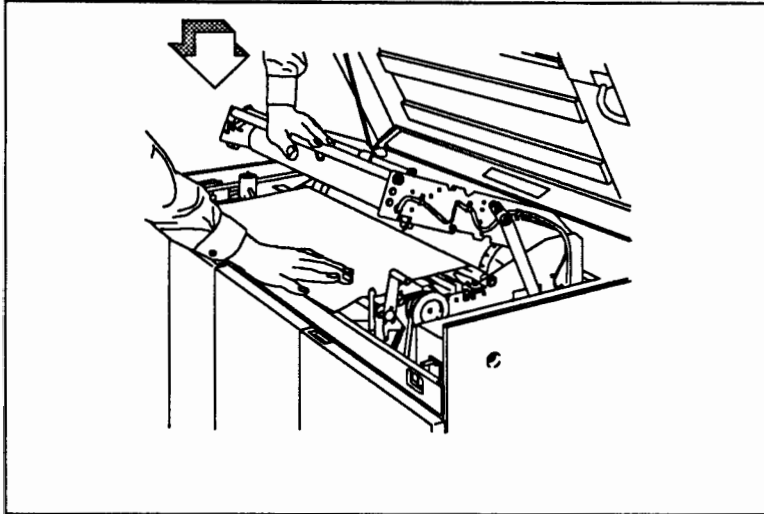

Figure 2-21. Closing the Upper Frame
- k. Close the upper frame. See Figure 2-21. Ensure that both ends are latched.